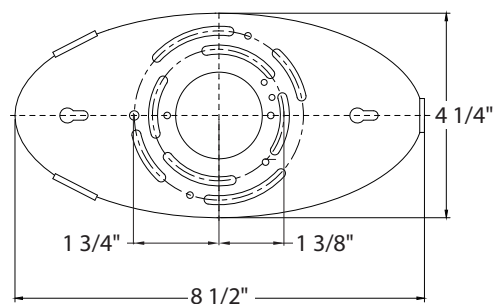

Fig. 3 Switch
4. The lamp can switch between four color temperatures (2700K-3000K-3500K-4000K), which can be adjusted to your preference with the switch in the canopy (Fig.3).